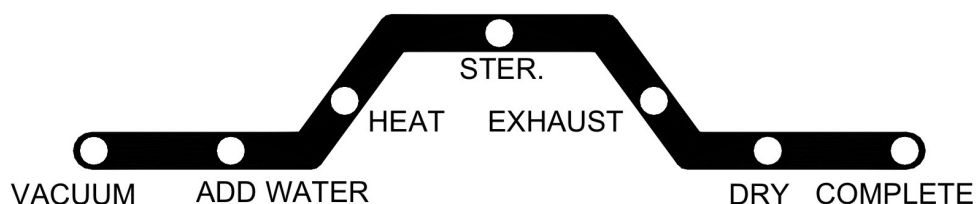

Figure 46
- D. Press the START Button , the setting temperature, duration, and dry time displayed two times on the three-digit display, and then the sterilizer will automatically run through the selected program. The current progress of the sterilization cycle is indicated by the illuminated LED on the Process Status Indicator. (Figure 46)